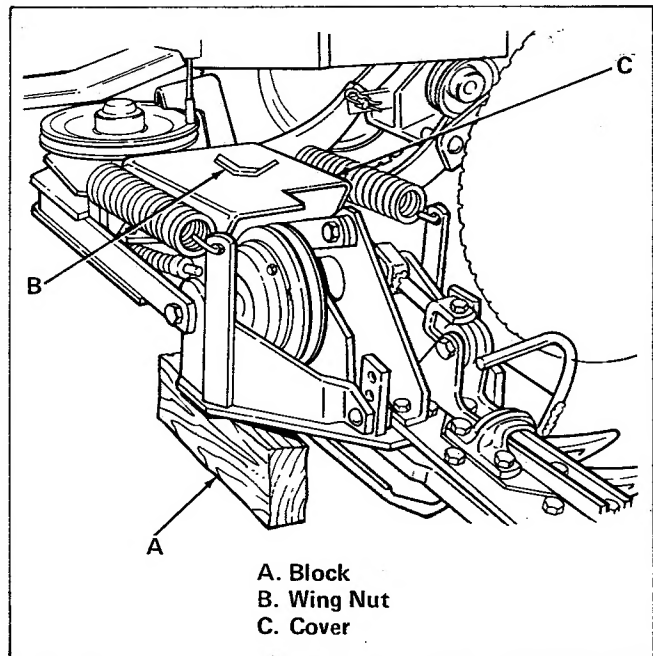

Figure 8. Mower Removal
4. Use tractor hydraulic lever to raise the mower. Place wooden block (item A, figure 8) under the sickle bar. Move hydraulic lever to FLOAT position.